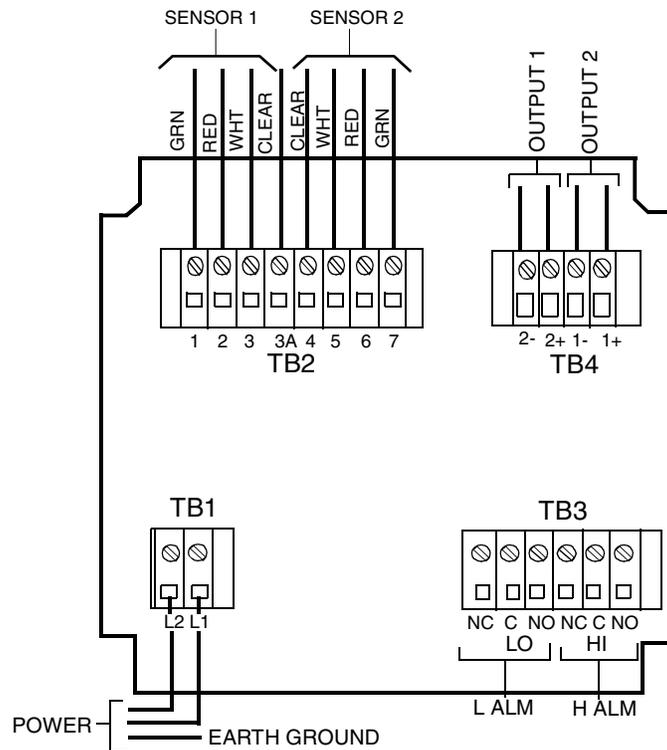

Figure 11. Metal Rear Panel Wiring
2. Connect H and L Alarm wires to TB3 as shown in Figure 11. Failsafe operation requires connections to be made between contacts NO and C, and the alarms to configured active. Refer also to “General Information Alarms” on page 33.
4. Connect sensor wires to Analyzer terminal block TB2 as shown in Figure 11.
5. Connect power wires to terminal block 1 as indicated in Figure 11. The earth (ground) connection from the power cord should be connected to the stud located in the bottom of the case. The stud grounds the instrument and is mandatory for safe operation.